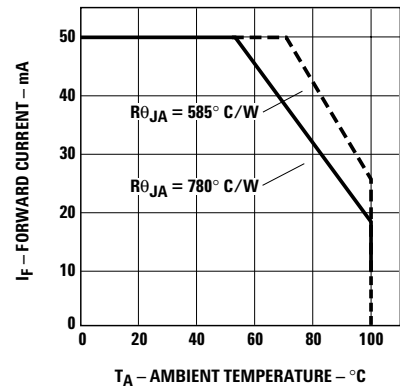

Figure 4. Maximum forward current vs. ambient temperature. Derating based on $T_{J\text{MAX}} = 130^{\circ}\text{C}$.
- Derate linearly as shown in Figure 4.